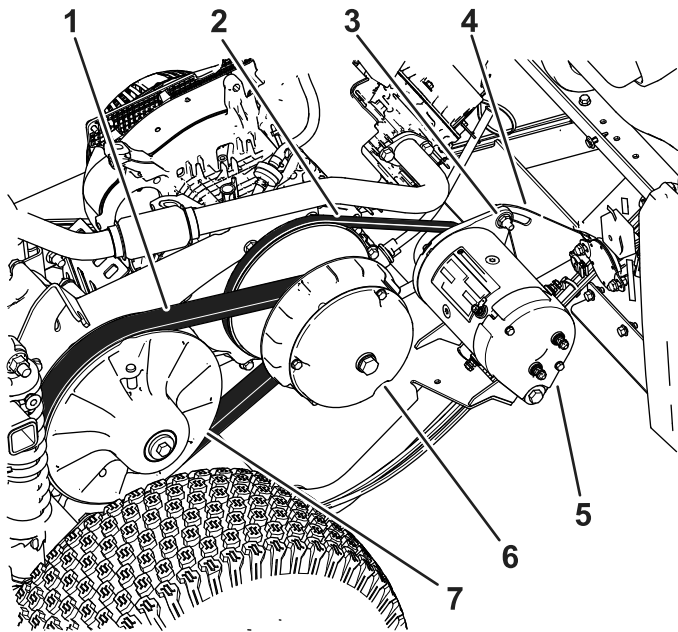

Figure 69
6. Rotate and inspect the belt (Figure 69) for signs of excessive wear or damage.
3. Rotate and route the belt over the secondary clutch (Figure 69).
4. Remove the belt from the primary clutch (Figure 69).
5. Align the new belt over the primary clutch (Figure 69).
6. Rotate and route the belt over the secondary clutch (Figure 69).
2. Loosen the pivot nut for the starter generator (Figure 69).
4. Apply downward pressure to the pry bar to rotate the starter down in the slot until the belt tension only allows 6 mm (1/4 inch) belt deflection with 44 N·m (10 ft·lb) of force (Figure 69).
5. Tighten the pivot nut hand tight, and remove the pry bar (Figure 69).